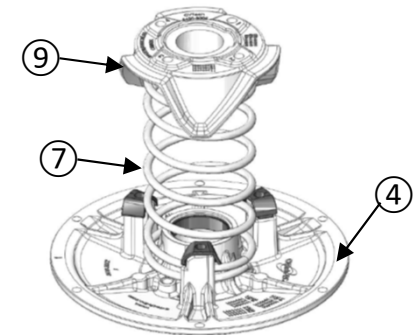

Figure 30
- Insert the spring ⑦ lugs into the proper cam ⑨ and sliding sheave ④ holes, at the same positions noted during the disassembly steps (figure 30).